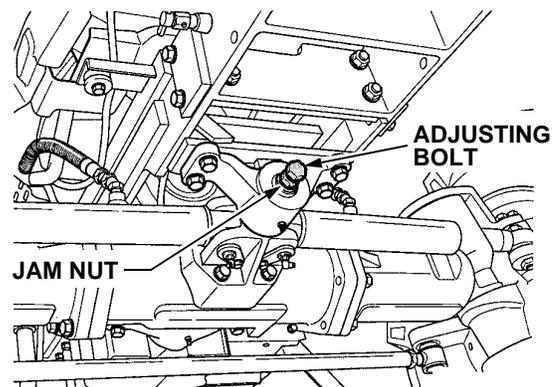

Figure 42
- If play is felt, loosen the jam nut on the adjusting bolt in the center of the front axle support. See Figure 42.